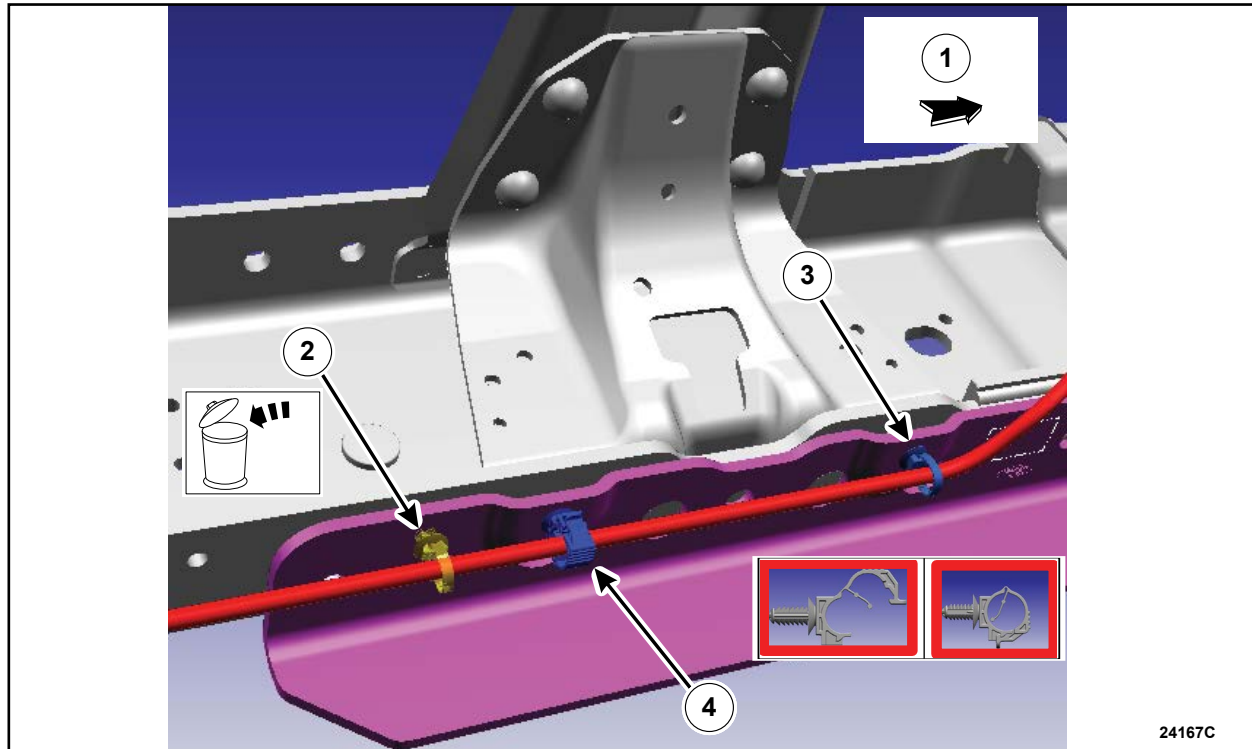

FIGURE 16
2. Once the LH side lower bracket has been installed, position back the DEF pressure line and attach the existing front line to frame retainer to the lower bracket. Then, remove and discard the original rear line to frame retainer from the DEF pressure line. Then, attach the supplied clasp retainer to the DEF pressure line and install into the rear lower bracket retainer hole as shown in Figure 16.